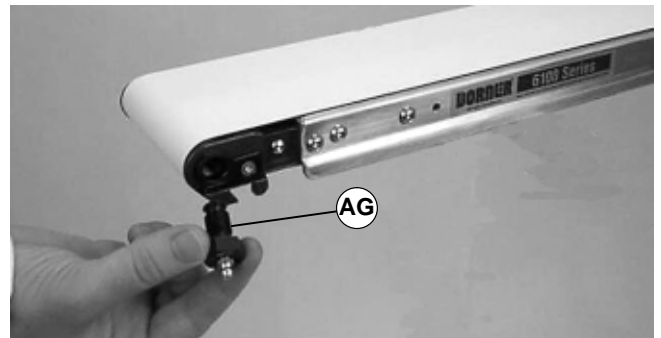

Figure 13
2. Install Dorner greasing adapter (AG of Figure 13), part number 200046M. Make sure the adapter shoulder is seated against the conveyor tail plate.